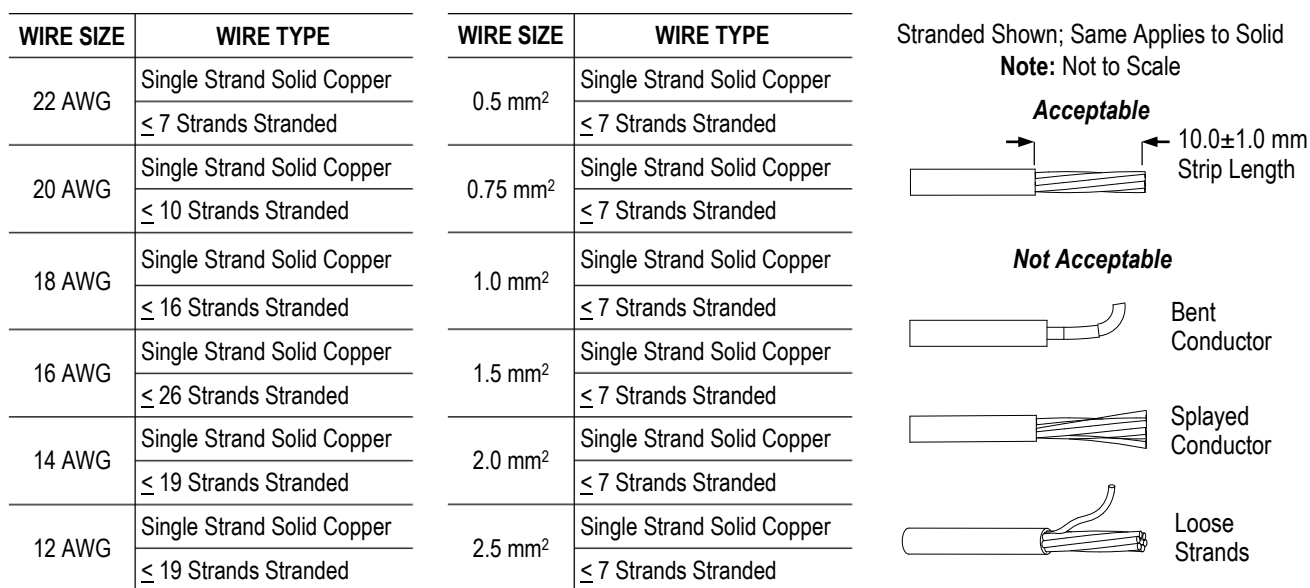

Figure 2
The wire must be stripped to the dimension given in Figure 2. The conductor strand or single strands must not be cut or pulled during the stripping operation.
- Conductors must not be nicked, bent, or splayed as shown in Figure 2.